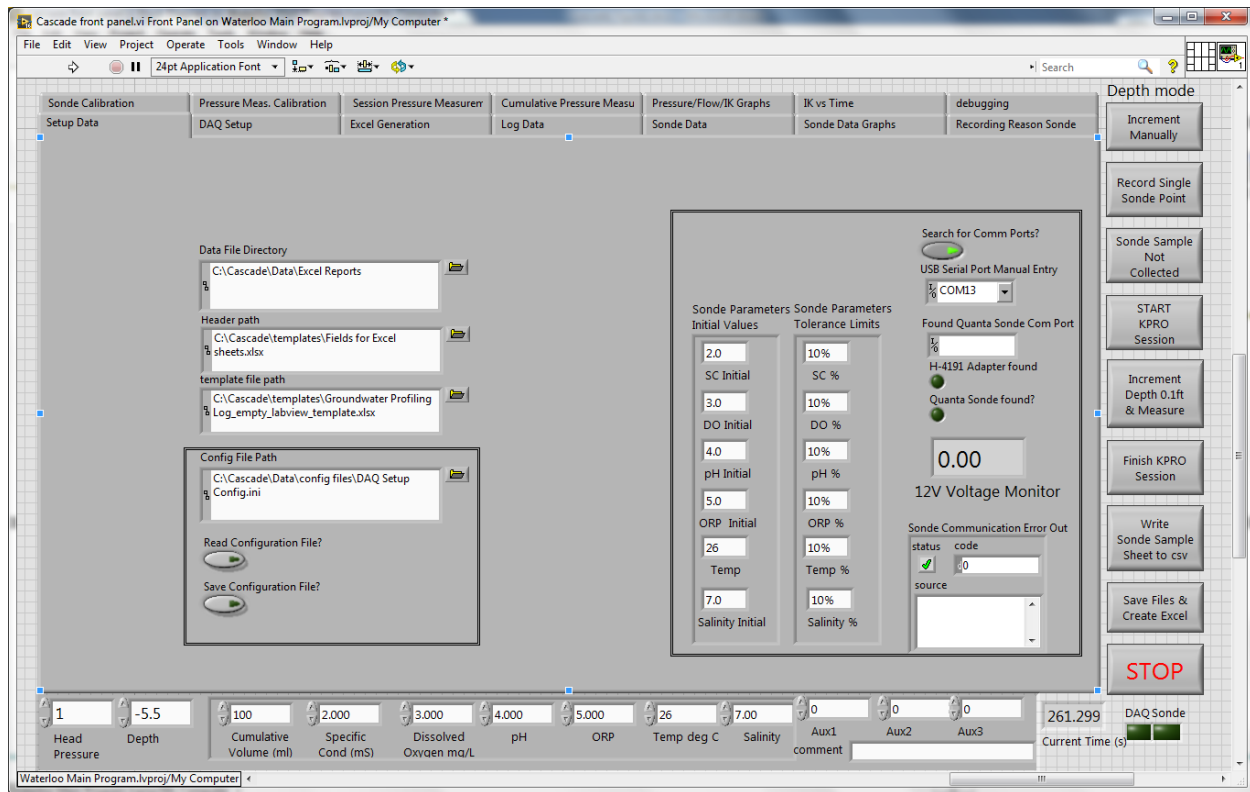
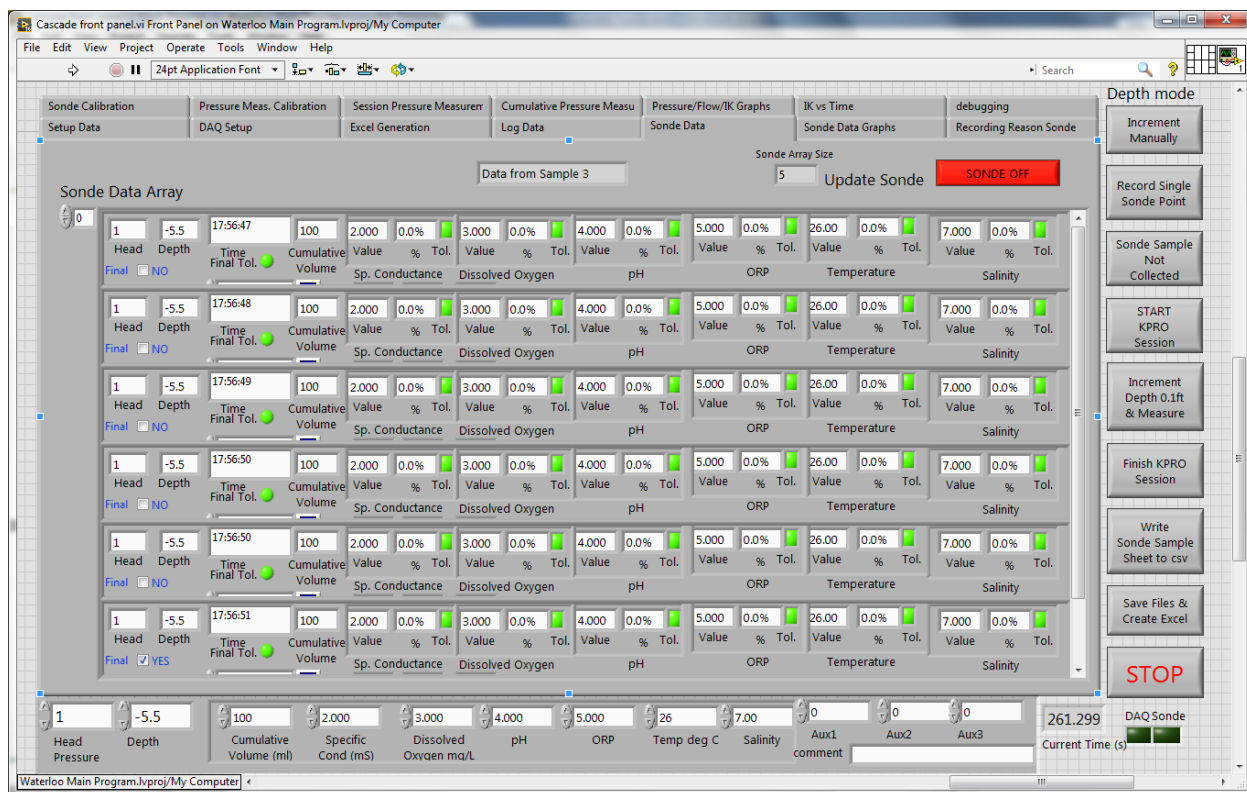

Figure 1: Setup Tab
Figure 7: Sonde Data Tab
1. The first tab is the “Setup Data” tab shown below in Figure 1; this tab has the controls for the main data directory for Excel Reports, the control for the Excel templates and the path to the template that is copied to the profile directory and then populated. Below those controls is the controls for the configuration file path and the usage of the configuration files.
- ii. If the Waterlog H-4191 RS-232 to SD-12 interface has been properly found and communications have been established, then the “H-4191 Adapter Found” indicator light will be illuminated. (It is not illuminated on the example shown above in Figure 1.) The Waterlog H-4191 interface also reads and reports the 12V power supply input from the external power supply. This reading is shown in the “12V Voltage Monitor” numerical indicator. If this reading is greater than or equal to 11.75V, then the “Sonde” square indicator in the lower right hand corner of Figure 1 will be illuminated.
- iv. The last indicator on the “Setup Data” tab is the error indicator for communications with the H-4191 and the Quanta Sonde. For the case of the screen capture shown in Figure 1, the computer was not connected to the H-4191 adapter or the sonde, so the error message shown indicates that the “Quanta Sonde was not found and no USB serial ports were found,” and a red X is displayed in the status indicator. If communications were properly established, then the status indicator would have a green check and the error message would be blank.
The next tab is the “Sonde Data” tab. The main indicator on this page displays the logged measurements from the sonde, as well as the head pressure, the depth, the time, the cumulative volume and the readings from the auxiliary sensors. Also shown for each sonde parameter is the percentage change from the stored initial sonde parameter value from the reference values as indicated on the Setup Data tab (Figure 1). The default parameters are used for the first percentage calculations; following that, the reference values are updated to store the previous logged sonde measurement. If the percentage change from one reading to another for an individual sonde parameter measurement is below the limits shown in the “Sonde Parameters Tolerance Limits” control on the Setup Data tab (Figure 1), (default 10%) then the tolerance (“Tol.”) indicator will illuminate. If all the tolerance indicators are illuminated, then the “final tolerance” indicator will also illuminate. The text indicator on the top center indicates to which sample set the parameter readings belong; in the case shown in Figure 7 it is for sample set 3.